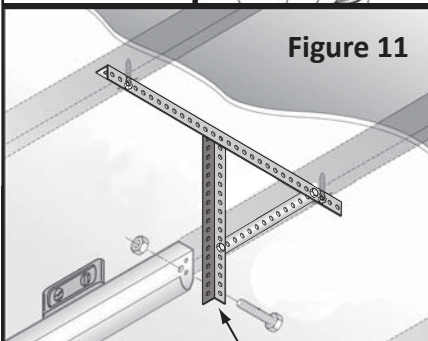

Figure 11
**Step 7:** (Standard Lift) Securely fasten the vertical Back Hanger Angle to the Horizontal Track using (1) 3/8"x1-1/2" Machine Bolt and (1) 3/8"-16 Hex Nut (Figure 11).